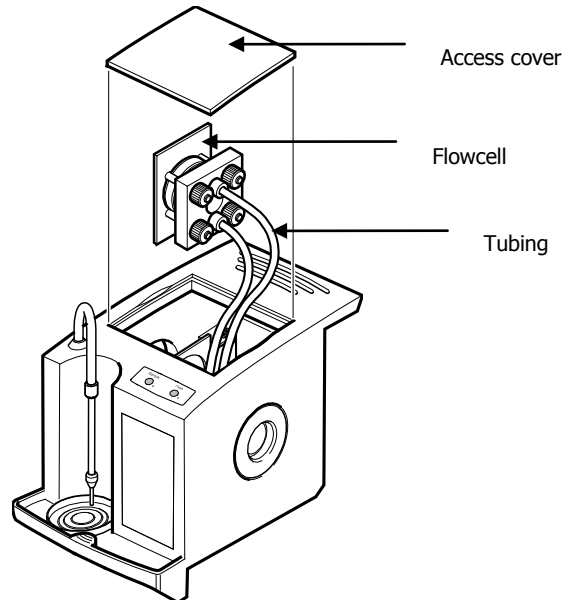

Figure 14 Flow cell removed from accessory
3. Holding the flow cell just above the accessory, as shown in Figure 14, disconnect the tubing from the flow cell by undoing the two connectors.